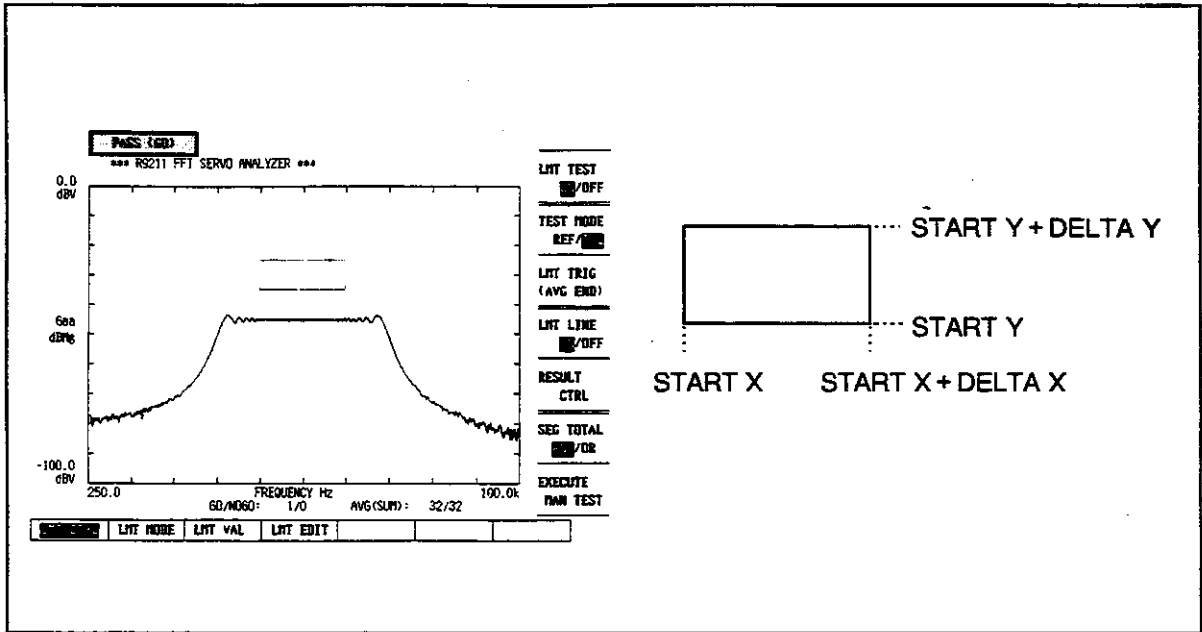

Figure 13-9 Upper and Lower Limits Judgement and Overall Value
When FUNC is set to OVERAL, the overall value between START X and START X + DELTA X is estimated and judged. In Figure 13-9, the peak value does not lay between the top and bottom sides but the overall value lays between them, thus the comparison result is PASS (GO).